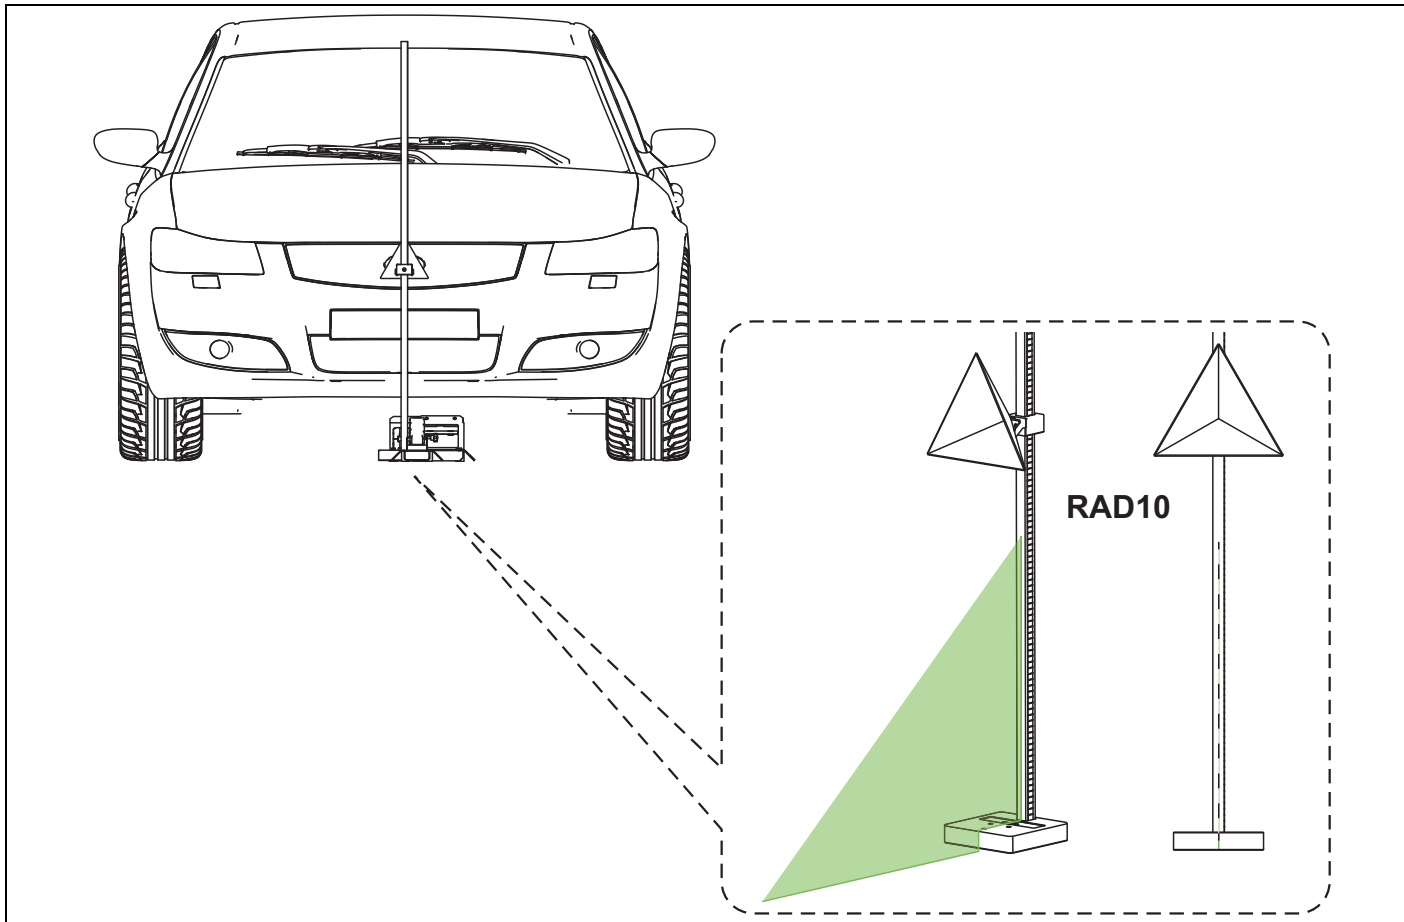
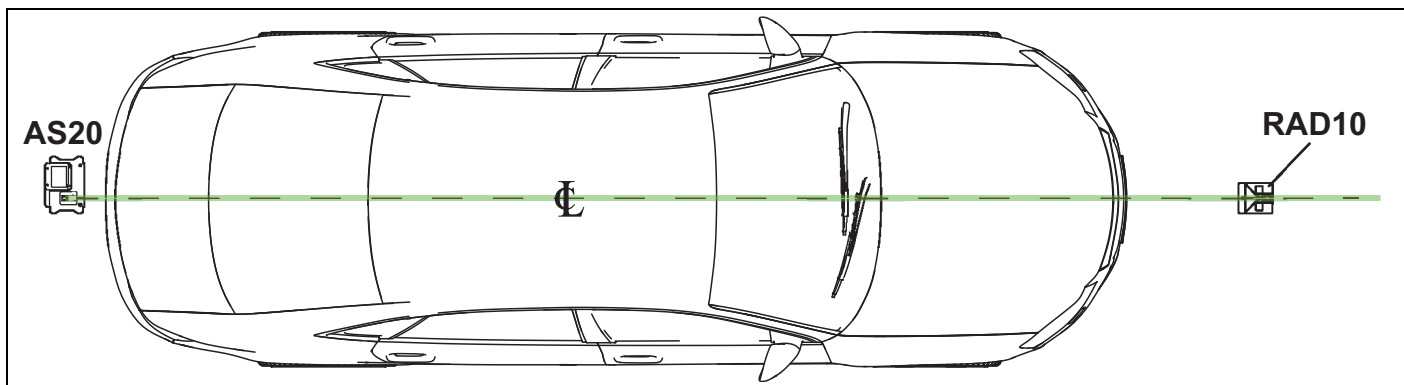

Figure 6-9
Figure 6-10
5. Align the center of the RAD10 radar stand with the AS20 laser from the opposite side of the vehicle (from vehicle centerline setup) (Figure 6-9 and Figure 6-10). The laser should be in the center of the vertical radar stand.